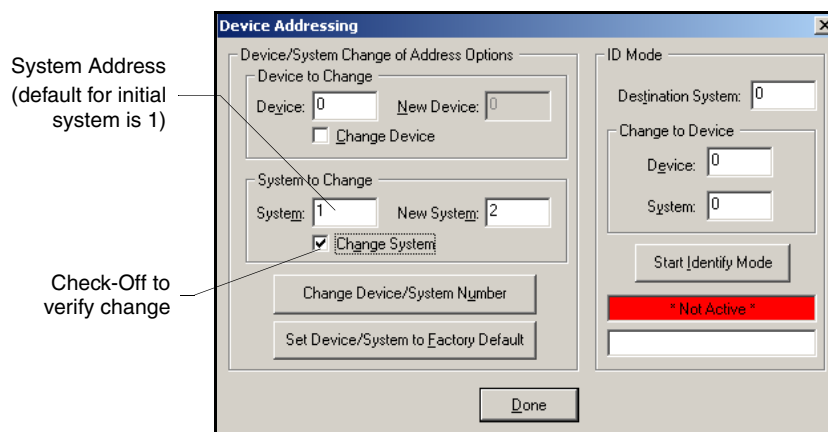

FIG. 18 Device Addressing tab (changing the system value)
- Access/open the Device Addressing dialog (FIG. 18) by either one of these two methods: